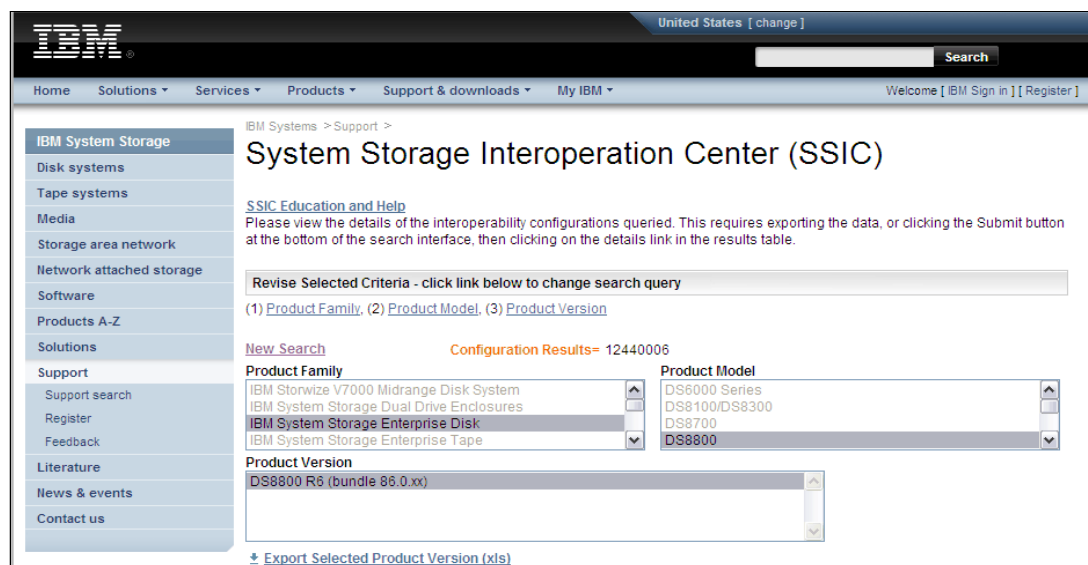

Figure 3-9 SSIC web page
- The IBM System Storage DS8000 Information Center (SSIC) link as shown in Figure 3-9. <http://publib.boulder.ibm.com/infocenter/ds8000ic/index.jsp>